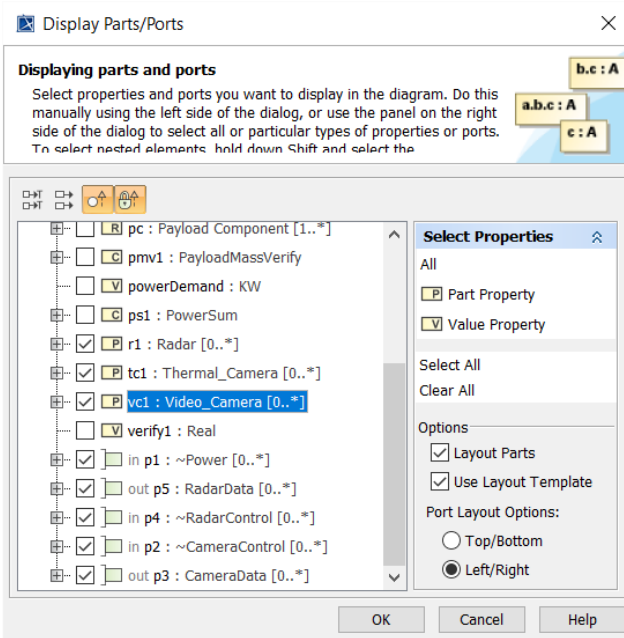

Figure 1 Display parts for internal block diagram
- Select parts to display as shown in Figure 1. Check the boxes for the three part properties and 5 proxy ports of Payload. Uncheck boxes for constraint, value and reference properties, which will not be used in this exercise.